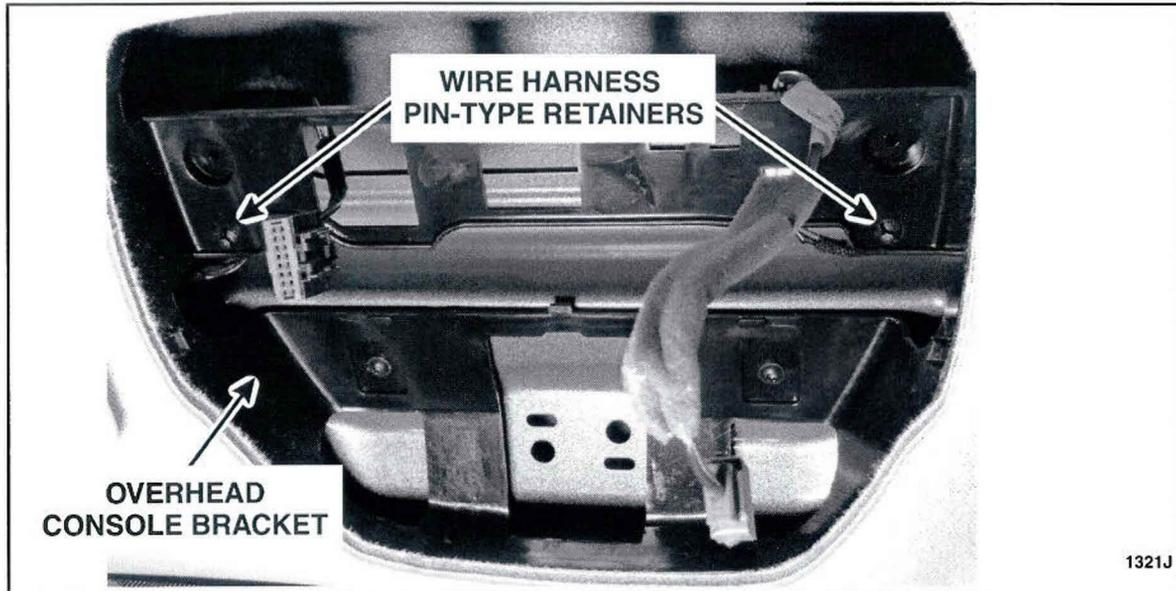

FIGURE 10
12. Disconnect the overhead console wire harness pin-type retainers from the overhead console bracket. See Figure 10.
24. Connect the overhead console speaker wire harness pin-type retainer to the console bracket. See Figure 10.